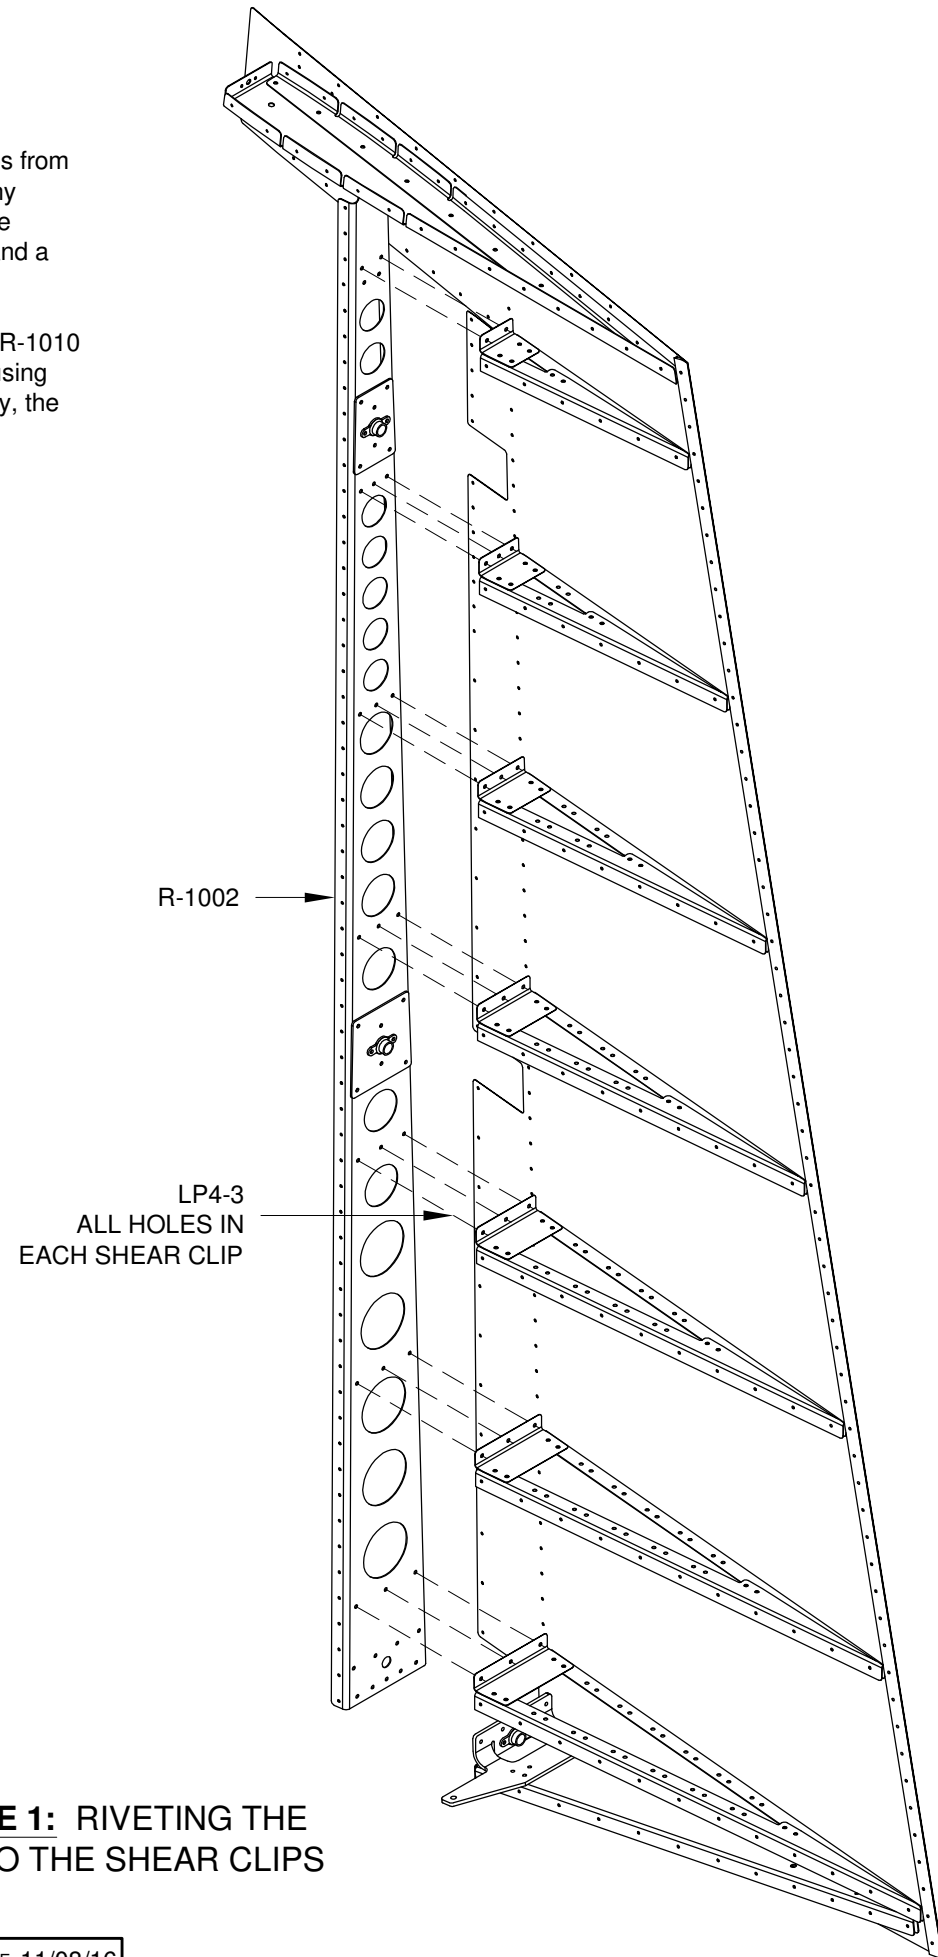

FIGURE 1: RIVETING THE SPAR TO THE SHEAR CLIPS
Step 2: Cleco the R-1002 Spar to the R-1010 Shear Clips, then rivet them together using the rivets shown in Figure 1. For clarity, the left skin is not shown in the figure.